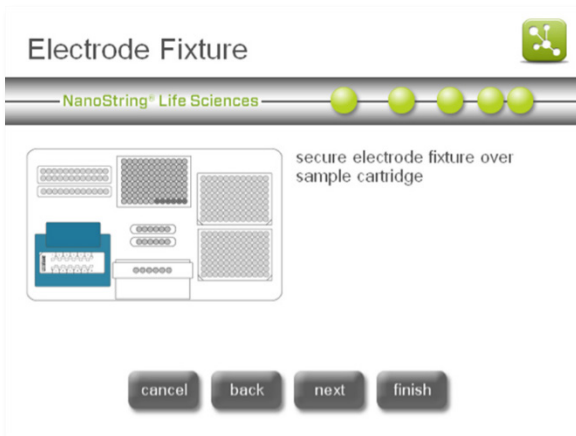
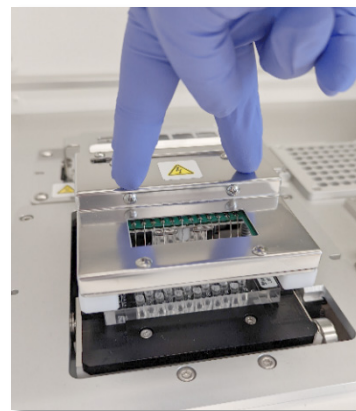

Figure 26: The 'Electrode Fixture' screen.
Figure 27: Carefully lower the electrode fixture into place over the cartridge, until it clicks.
11. The 'Electrode Fixture' screen will appear (**Figure 26**). Slowly lower the electrode fixture into place over the cartridge using even pressure, until it clicks (**Figure 27**). The 24 electrodes should insert into the 24 wells. Stop if you encounter any resistance and check that all electrodes are clearing the wells before proceeding. Press **next**.
IMPORTANT: Do not use the release handle while lowering the fixture. Doing so will prevent the fixture from locking. Press on the body of the fixture away from the release handle (**Figure 27**).